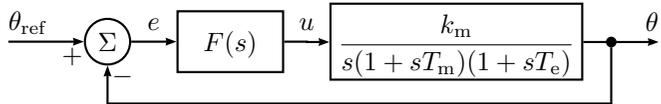

Figure 5.4a
5.4 Figure 5.4a shows a position servo including a DC-motor. The extra time constant T_e is due to the inductance in the winding of the motor, which is usually not taken into account. The parameter values are $k_m = 10$, $T_m = 0.1$ and $T_e = 0.01$. We want the servo to fulfill the following specifications: